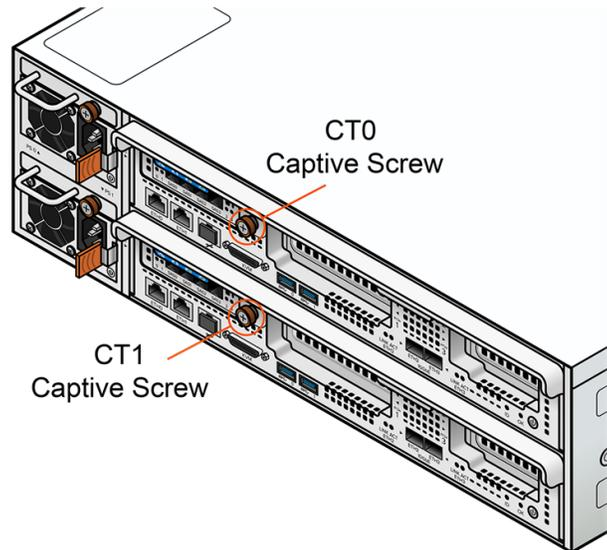

Figure 10-8. Loosening the Captive Screw
1. Loosen the orange captive screw on the rear panel of the controller. See Figure 10-8.